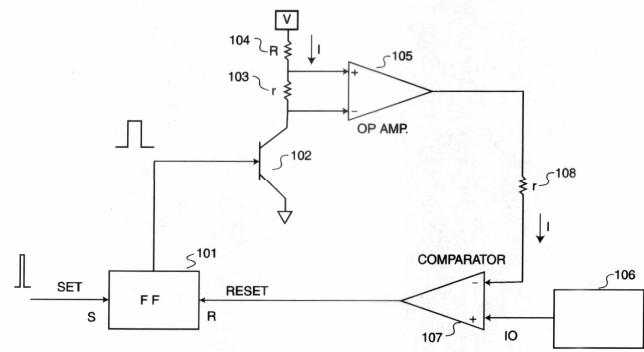

Figure 3. Temperature Control Principle
Figure 3 shows the basic workings of the Intelligent Thermal Technology's printhead temperature control circuit and how it affects print density. At the top of the drawing, resistance "R (104)" is the heating element. Resistance "r" is used to measure the current flowing through "R", and the transistor connected to this makes the driving of "R" possible. If current flows through element "R", it heats up and the resistance is lowered. Then the current increases. This brings about voltage fluctuations across "r" and the output of the OpAmp (105), which is the input of the comparator (107). Another input of the reference voltage that corresponds to the comparator is the desired print density, which is being sent from the controller. Both inputs are compared, one at a time.